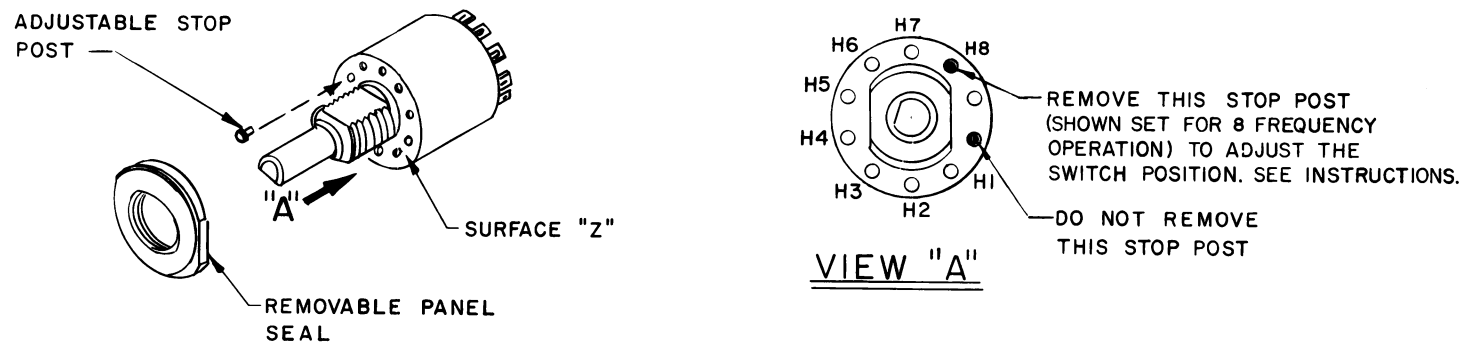

Figure 1 - Stop Post Adjustment
- Unscrew the panel seal to gain access to the stop post (see Figure 1).